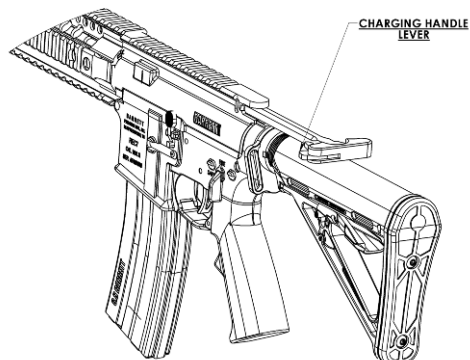

Figure 8.
2. Before pulling the charging handle, disengage the charging handle lever with index finger on left side of handle. Pull charging handle back with index and middle fingers. Once the charging handle is in the rear most position, release handle with both fingers and let the handle pull forward without any assist. This will ensure the full force of the buffer spring is utilized to chamber the first round. (Figure 8).